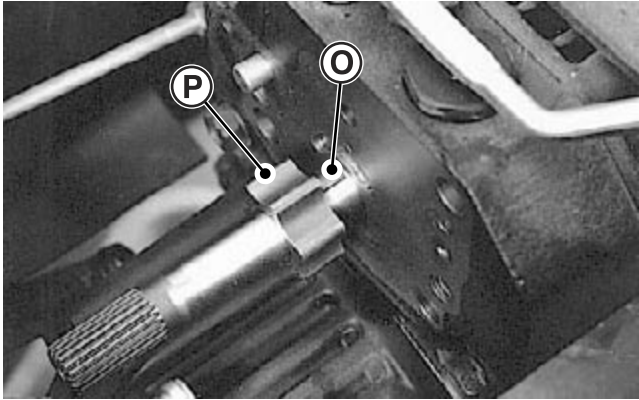

Fig. 2, Charge Pump Rotor
IMPORTANT: Avoid damage! Do not drop pump gerotor (P) or lose key (O). Damage to machined surfaces will cause poor performance and premature failure. (Fig. 2)